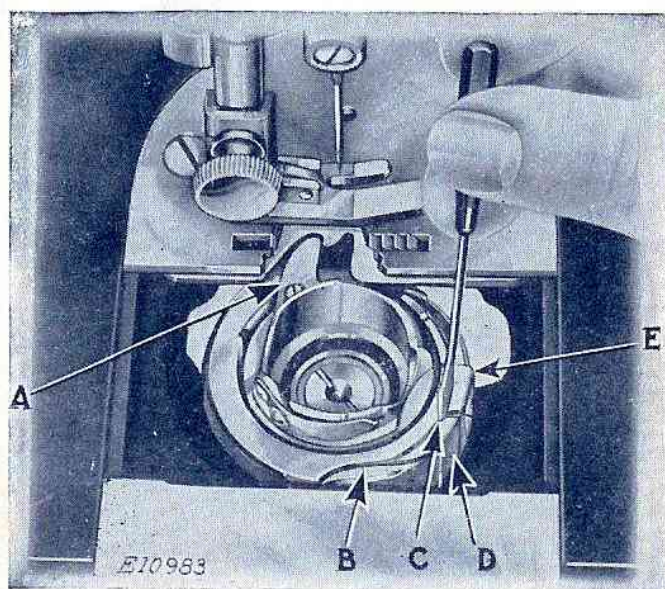

FIG. 30. BOBBIN CASE IN POSITION
(SEE FIG. 30)
The bobbin case may be easily removed from the machine without taking off the throat plate, although for the purpose of illustration the throat plate and feed dog are shown broken away in Fig. 30.
Remove the bobbin from the bobbin case. Turn the balance wheel over toward you until the end of the hook ring (E) is toward the front of the machine, as shown in Fig. 30. Insert the blade of the small tension screwdriver No. 120378, which is furnished with the machine, into the slot (C) between the ring and the edge of the spring, as shown in Fig. 30. With a downward pressure, turn the screwdriver one-half turn to the right so that the screwdriver will drop into the slot and unlock the spring. With the right hand, hold the balance wheel to prevent its turning, and, with the left, place the screwdriver against the edge of the slot in the ring and push it around in a direction opposite to the hook rotation until the circular cutout (B) is opposite the spring (D). The ring and bobbin case may then be lifted out.
in the position plate under the feed dog as shown in Fig. 30. Turn the bobbin case back and forth slightly to make sure that it is properly seated, then place the hook ring (E) in position with the cutout (B) opposite the spring (D). Press the ring into place and turn it in the direction of hook rotation until the spring locks it in position. Then replace the bobbin.